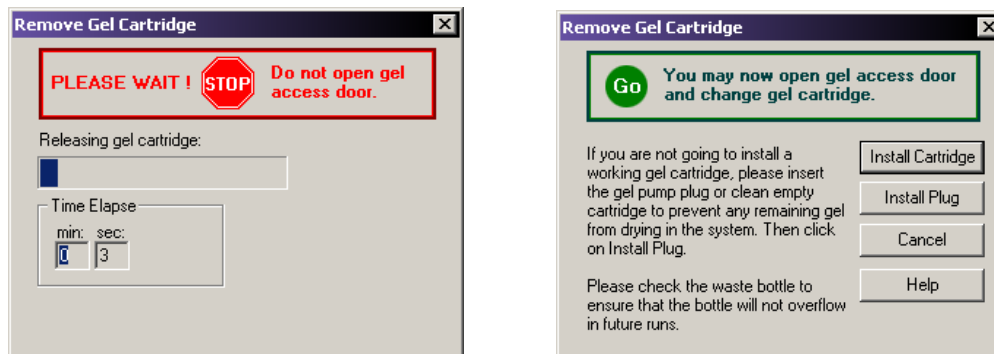

Figure 9.41 Remove Gel Cartridge Dialog Box
10. In the Remove Gel Cartridge dialog box (Figure 9.41):